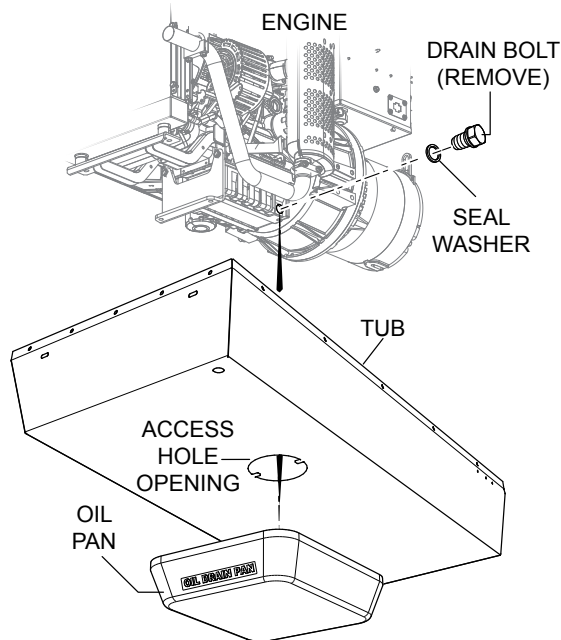

Figure 28. Draining Engine Oil
4. Place a container (Figure 28) directly under the access cover hole opening.
5. Next, remove the drain bolt and seal washer (Figure 28) on the engine so that the oil can begin to drain into the container. Reposition the container if necessary.